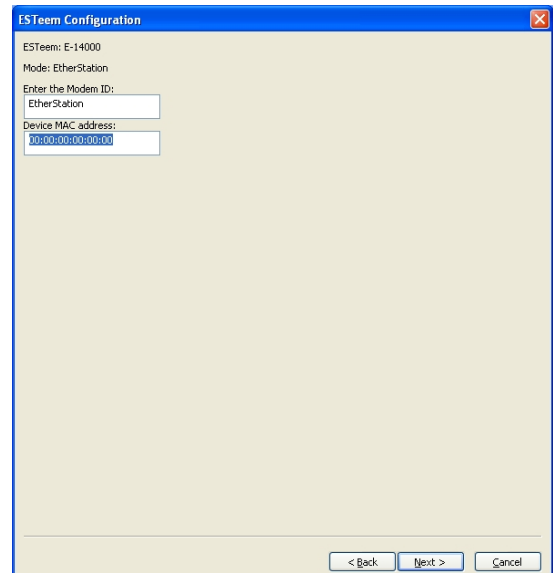

Figure 25: MAC Address Entry
4. EtherStation mode should be selected in the Mode of Operation. Press the Next button at the bottom of the window to continue. Enter the connected Ethernet device's MAC address in the "Device MAC Address" box (Figure 25) and press the Next button at the bottom of the window to continue.